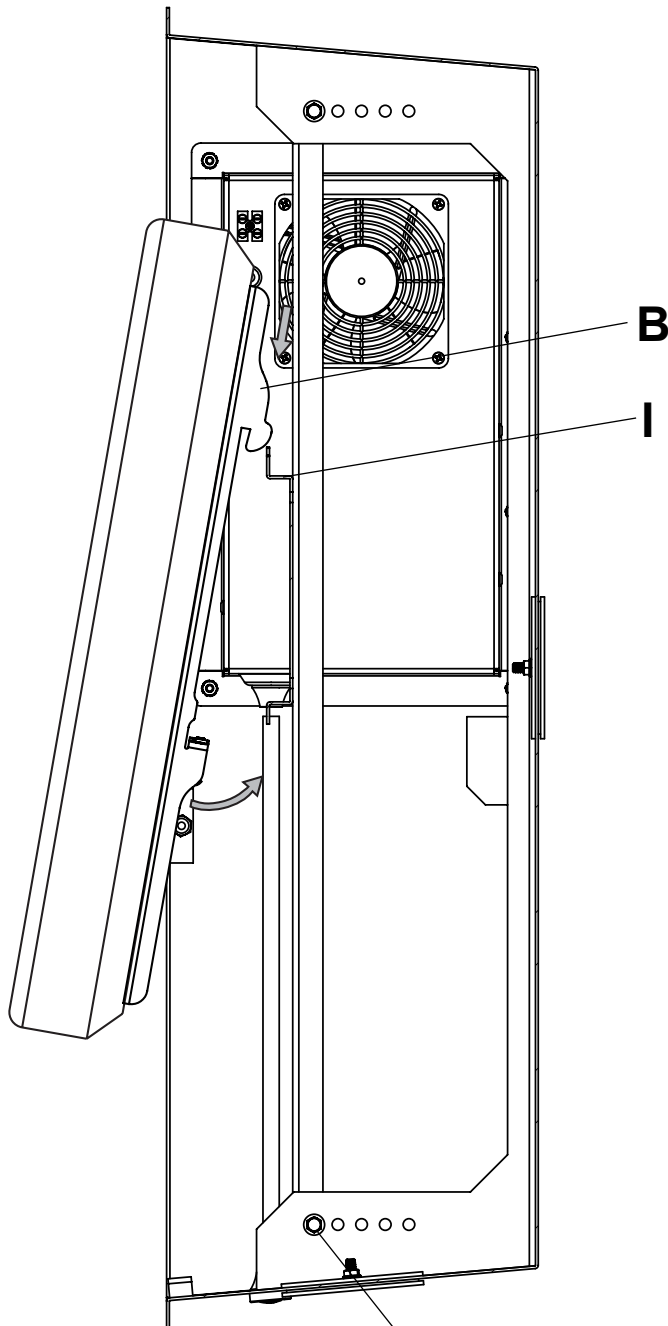

fig. 7.1
- 7** Hook adapter brackets (**B**) onto wall plate (**I**) then slowly swing display in as shown in figure 7.1. Remove 3" serrated washer head screws from bottom of rear supports.